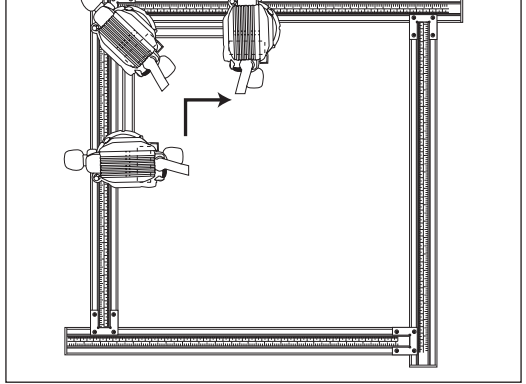

Fig. 18
- Please note corners will be rounded and not square due to rotary cutting action of the cutter. – (Fig.18)